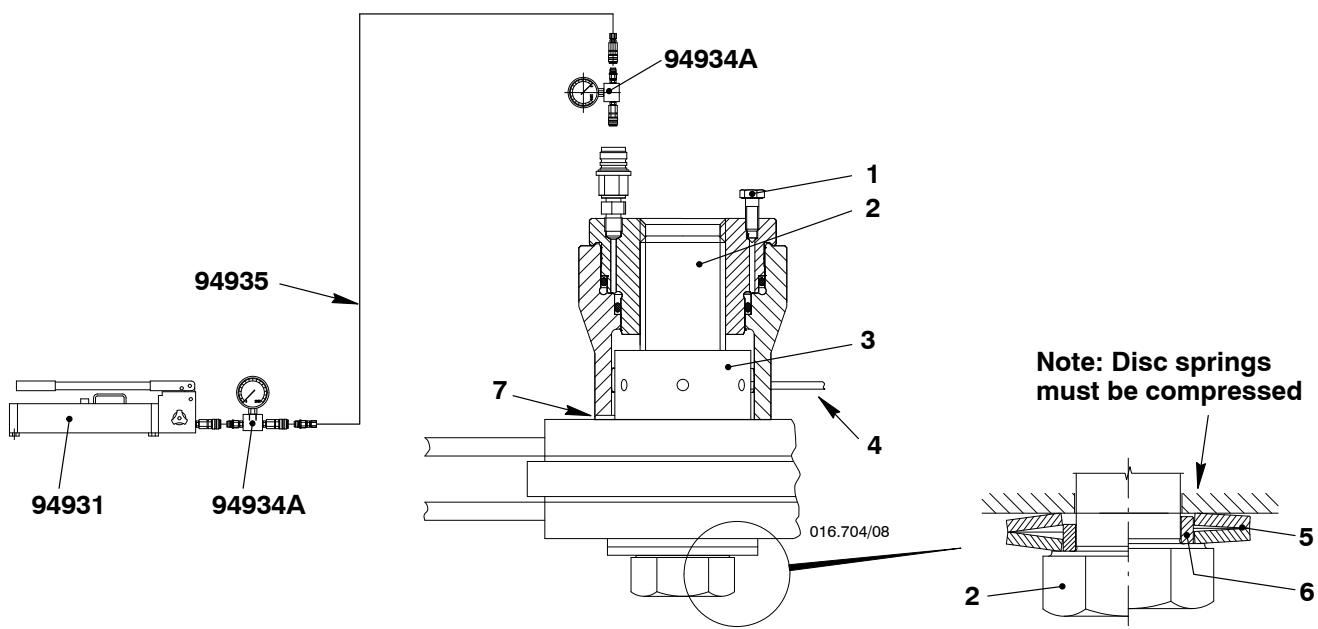

Fig. 2
- 2) Apply Molykote paste G to the threads of the bolts (2).
- 3) Refer to 9403-2 and 9403-4. Attach the pre-tensioner and the applicable equipment as shown in Fig. 2.
- 4) Apply a tension of 170 bar to the bolt (2).
- 5) Put the feeler gauge (94122) through the slot (7) to do a check for clearance between the nut and its seating. If there is no clearance, the bolt tension has not changed and you can do step a) and step b). If there is a clearance, do step 6).
- a) Operate the vent screw (1) to release the pressure to zero.
- a) Use a round bar (4) to tighten the nut (3).
- c) Operate the vent screw (1) to release the pressure to zero.